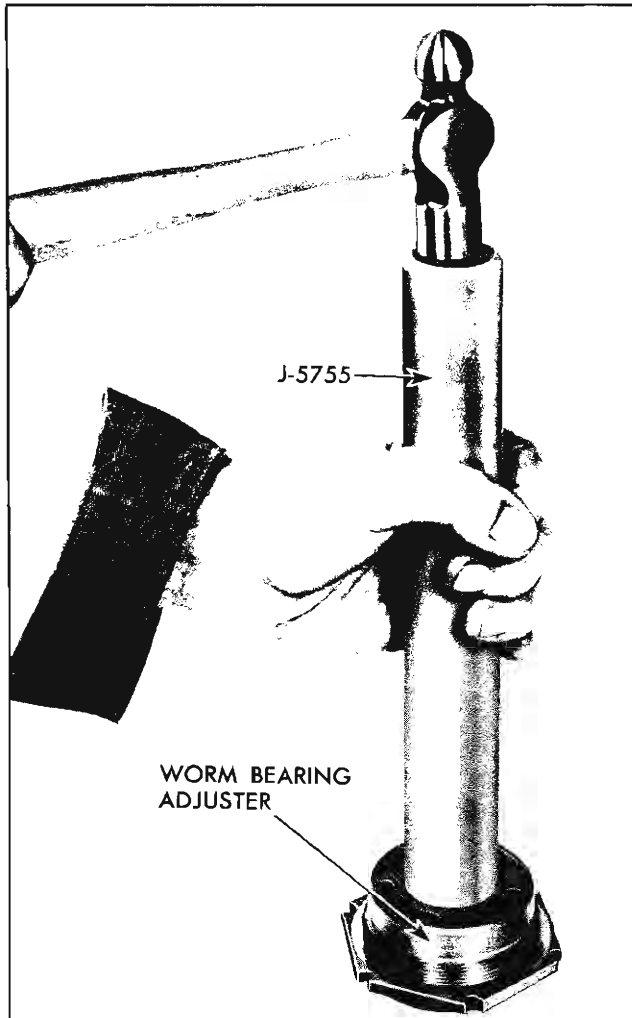

Fig. 9-22 Installing Lower Bearing Cup
4. Install lower bearing cup with Tool J-5755 (Fig. 9-22).